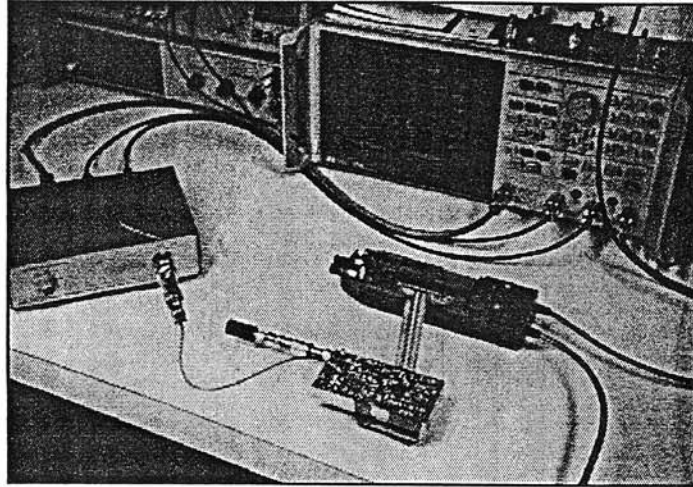

FIGURE 2
2. Connect a small coax to FL4 and ground at this point and terminate the antenna port in a 50 ohm load (figure 2).